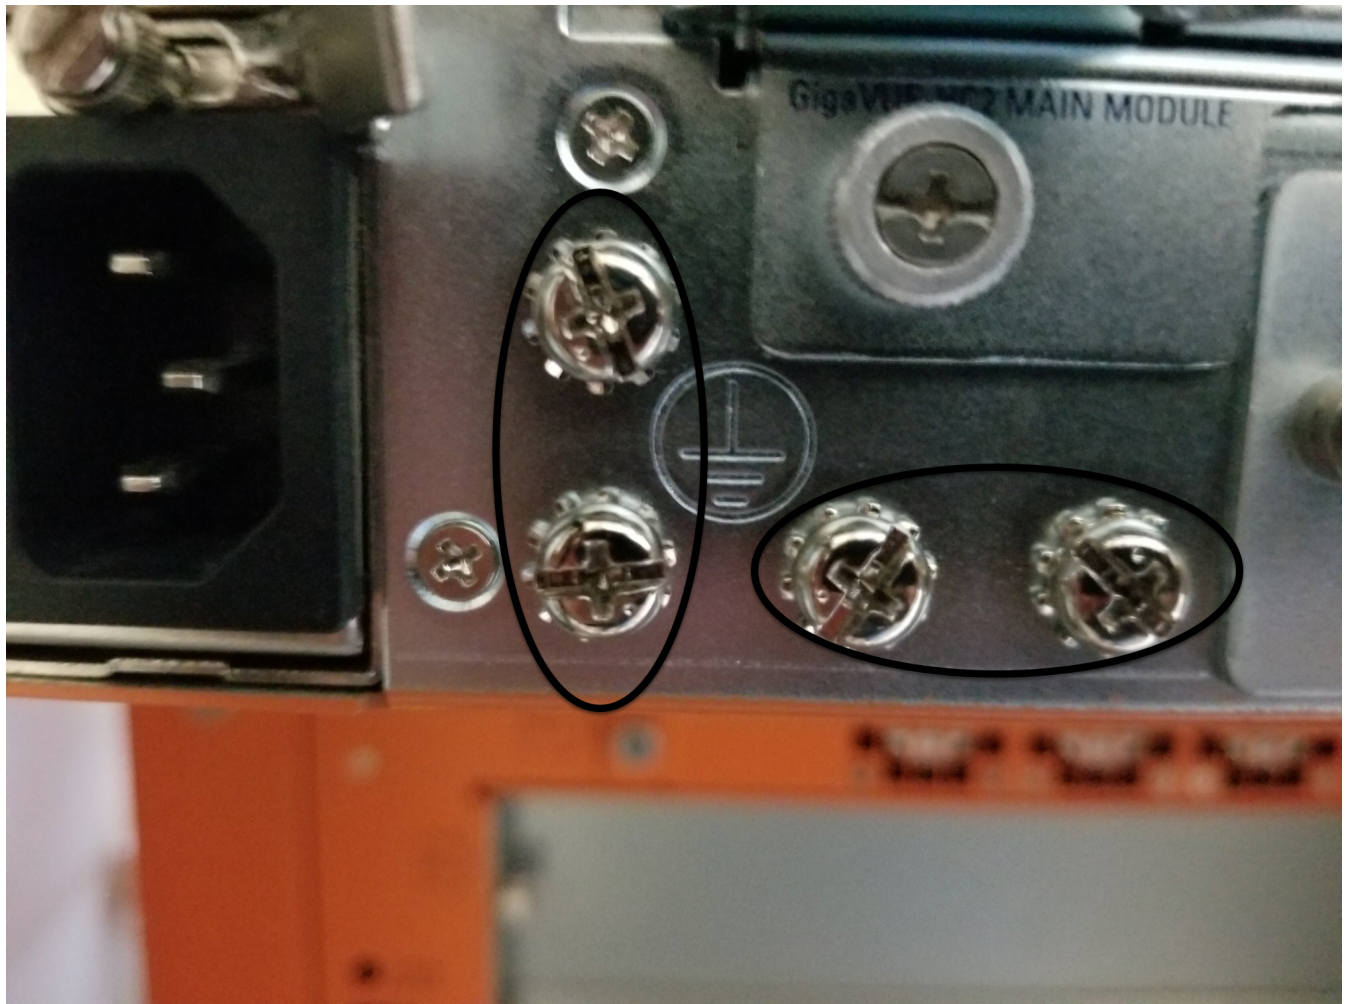

Figure 1 Grounding Points for Ground Screws (GigaVUE-HC2 Shown)
1. Locate the grounding points near the bottom left corner at the rear of the chassis to the right of the power plug. There are two pairs of grounding points as shown in Figure 1 Grounding Points for Ground Screws \(GigaVUE-HC2 Shown\).